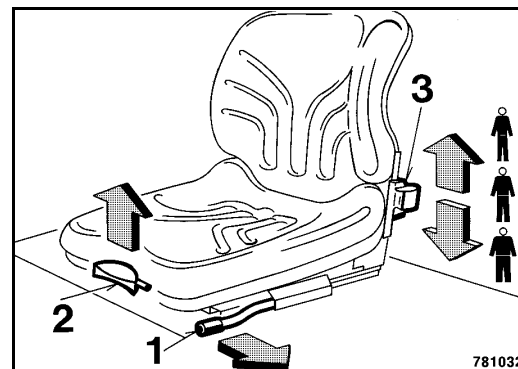

Fig. 52
- To adjust the seat in longitudinal direction push the lever 1 (Fig. 52) outwards.
- Pull the lever (2) up and adjust the backrest.
- Operate the lever (3) to adjust the weight of the operator.